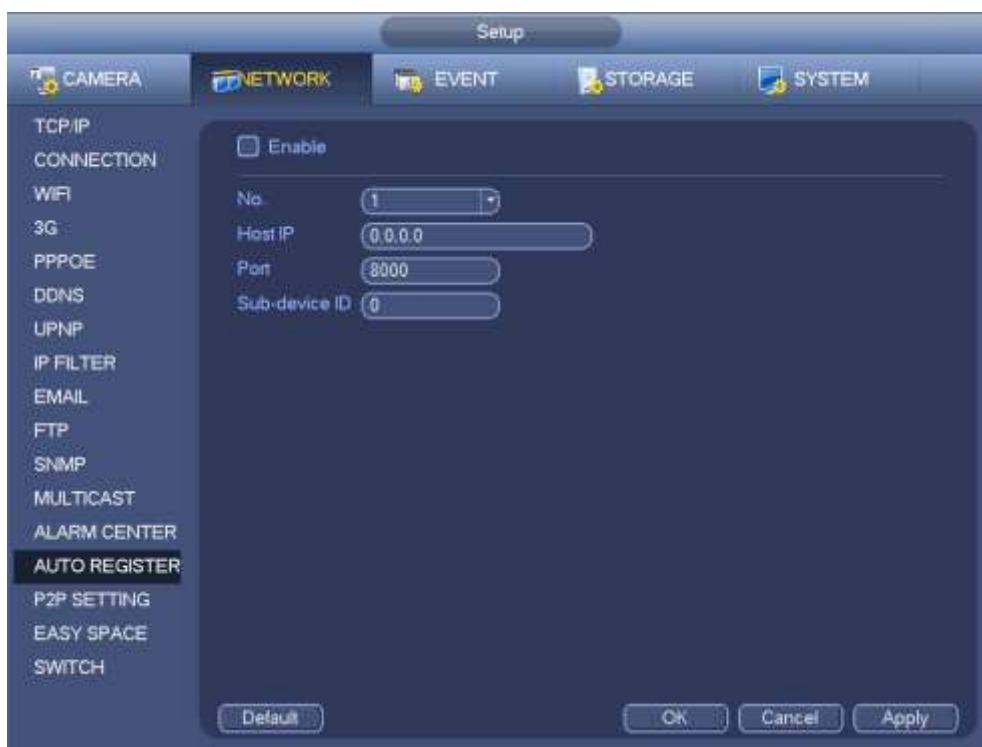

Figure 4-177
1) The setup interface is shown as in Figure 4-177.
3) Now you can add device. Please do not input default port number such as the TCP port in the mapping port number. The device ID here shall be the same with the ID you input in Figure 4-177. Click Add button to complete the setup.